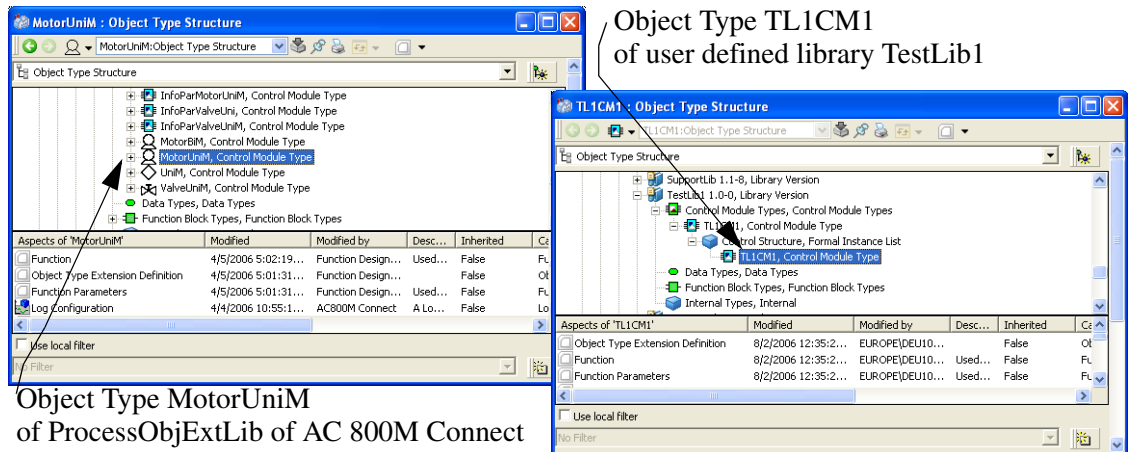

Figure 20. Library / Object Type Extensions Added by Function Designer
For each base library loaded by an AC 800M system extension, Function Designer system extensions add corresponding Function, Function Parameter, and Object Type Definition Extension aspects through a corresponding extension library. The Object Type Definition Extension aspect is needed to add aspects to an already released library. To save the additional aspects for further use an extension library is recommended. See Figure 20.
- Export the extension library (either in Open or Closed or Released state, according to further usage) by using the Export Library button in the Config View on the Extension Library Version Definition aspect. See Figure 20.